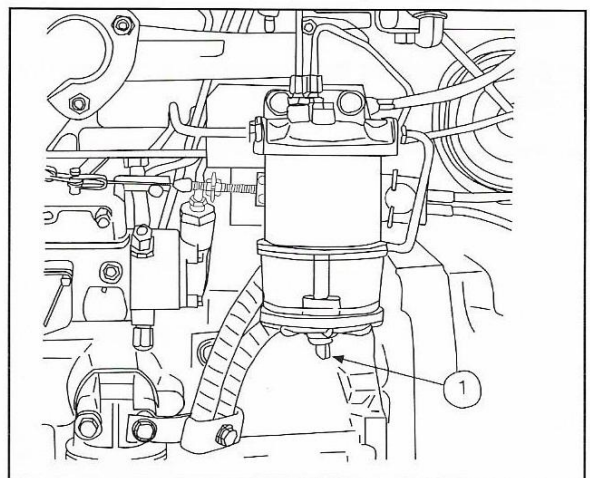
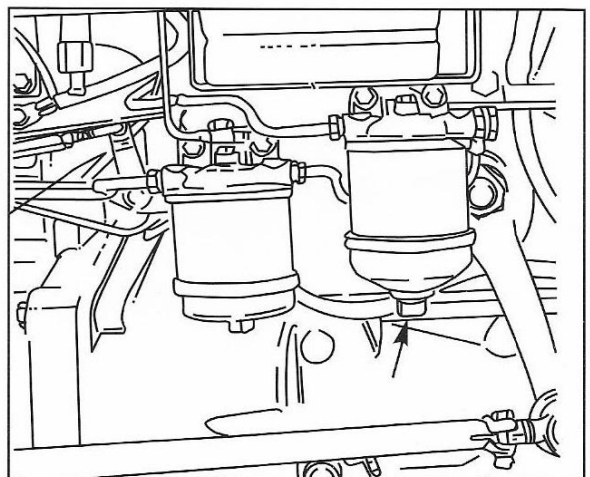

Fig. 74
Fig. 75
This range of tractors is fitted with a single fuel filter with glass bowl and water drain tap (Fig. 74). For tractors working in arduous conditions a dual filter system can be fitted, this comprises of a primary and secondary filter (Fig. 75), the primary filter having the glass bowl and drain tap.
2. If necessary, open the drain tap (1, Fig. 74 and Fig. 75) to allow the water to escape.